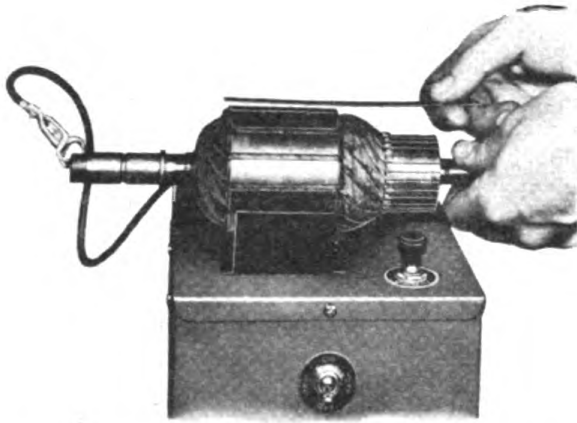

Figure 224. Testing Armature on Growler for Grounds.
B. Check the armature for shorts on a growler as illustrated in Figure 224. Replace the armature if it is found to be shorted. Check for open by touching the test probes to the core of the shaft and each segment. If the lamp fails to light, the coil is open and the armature should be replaced.